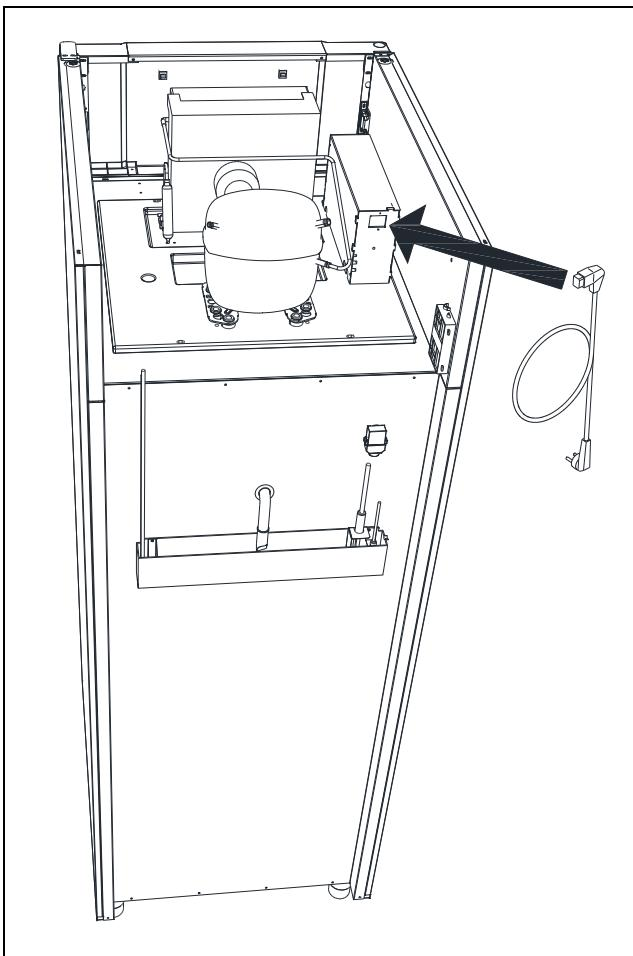

Fig. 7
- ⚠ The cabinet is intended for connection to alternating current. The connection voltage (V) and frequency (Hz) are shown on the name plate in the cabinet (see Fig. 10). Only the supplied detachable cord is to be used (see Fig. 7).